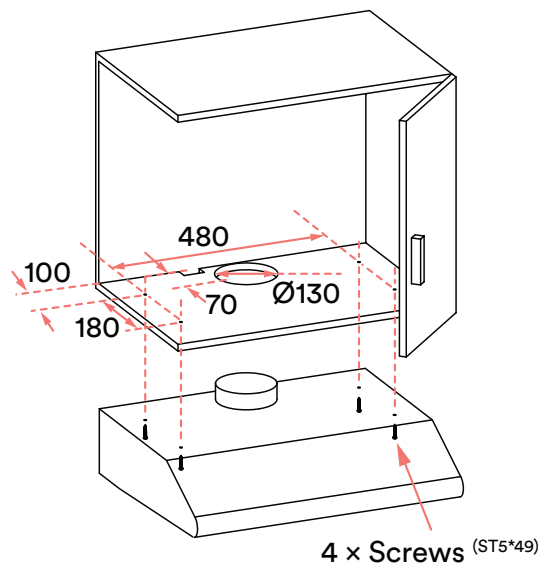

Figure 6
1. Drill a hole with a 130mm diameter and four 3.5mm diameter holes as per the measures dimensions in Figure 6.